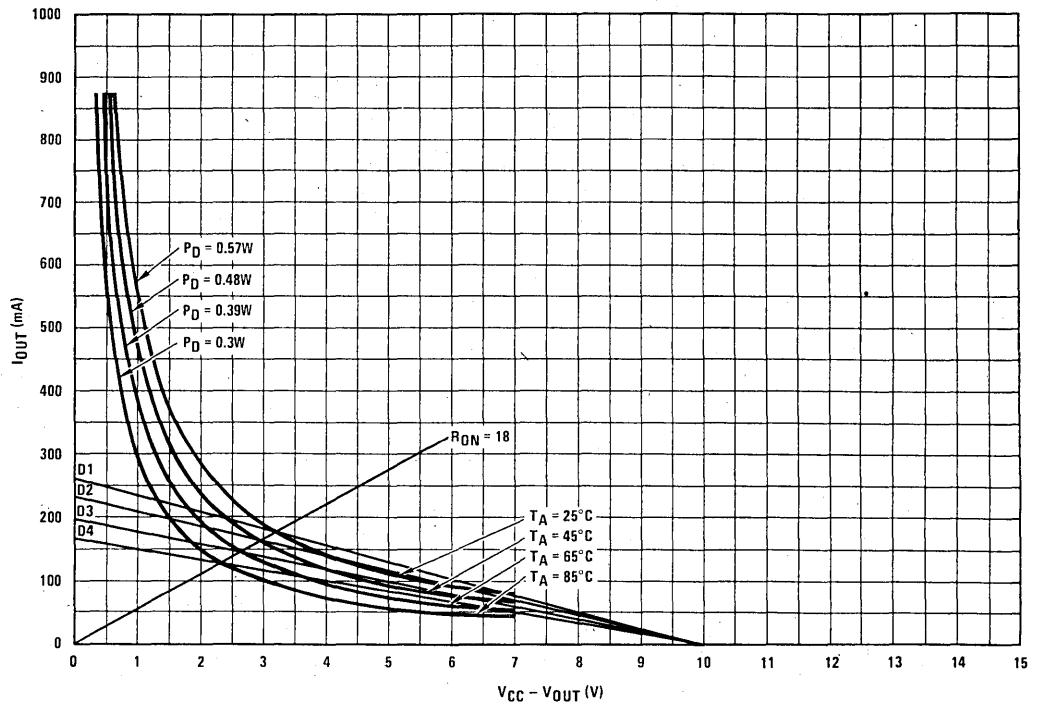

FIGURE 7
The $R_L(\text{MIN})$ given in (8) may not be a true minimum if the tangent point does not fall inside the specified R_{ON} region. The actual $R_L(\text{MIN})$ can be obtained as shown in *Figure 7*. The calculations and results are given in Table II.
Note that the $R_L(\text{MIN})$ values in Table II are lower than those given by (8). This corresponds to the section on each of the 4 load lines in *Figure 7* which extends beyond the power limit curve at each associated temperature. However, this section on each load line is outside the specified R_{ON} range. Within the R_{ON} range, load lines are below the power limits; therefore, safe operation is guaranteed.